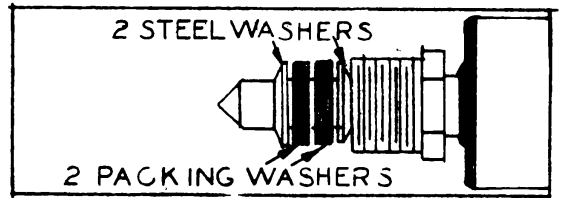

Fig. 26
1. Replace packing and washer in release screw chamber and screw in release screw by the packing nut. (See Fig. 26 Page 38)